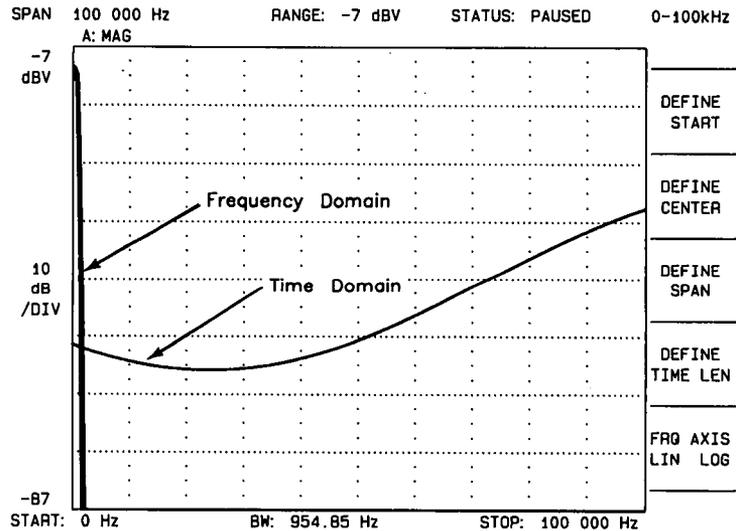

Figure 1-2. HP 3561A Display Showing Low Frequency Beatnote in Frequency and Time Domains
1. Look at the HP 3561A Dynamic Signal Analyzer and observe the beatnote signal being displayed. You should see the HP 3561A simultaneously display the beatnote in the frequency domain and the time domain, as shown in Figure 1-2.